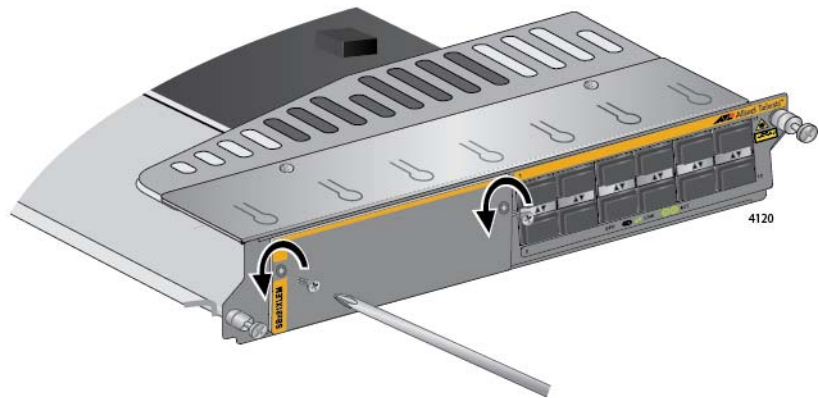

Figure 84. Removing the Screws on the Blank Slot Cover on the AT-SBx81XLEM Line Card
4. With a #2 Phillips-head screwdriver, remove the two screws that secure the blank slot cover to the card. Refer to Figure 84.